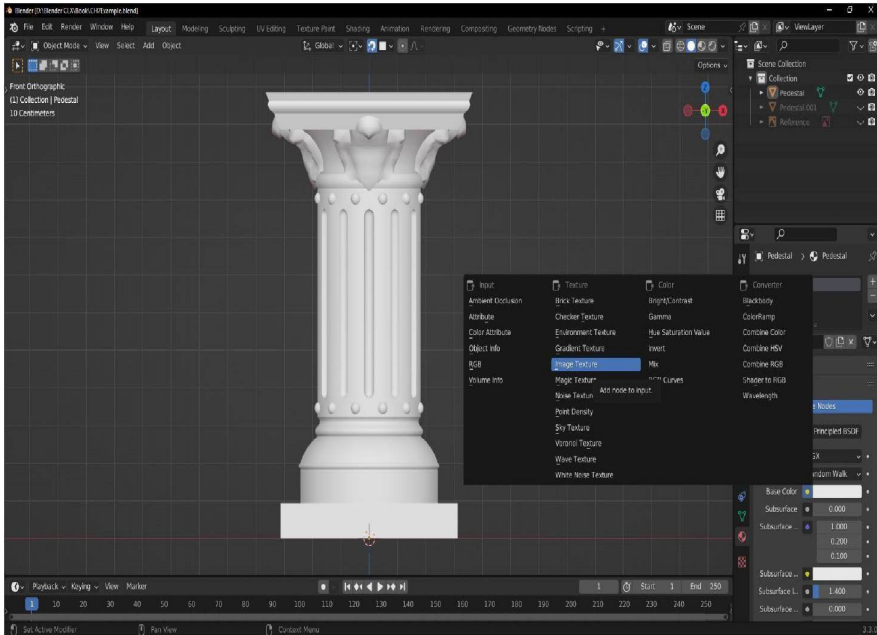

Figure 7.19: Adding a new Image Texture to the new Pedestal Material in the Shader's Base Color slot
4. To add a new blank texture to our Pedestal, click the yellow dot to the right of the words Base Color which will open the texture slot menu in the Material's Shader, and choose **Image Texture** as shown in *Figure 7.19*.